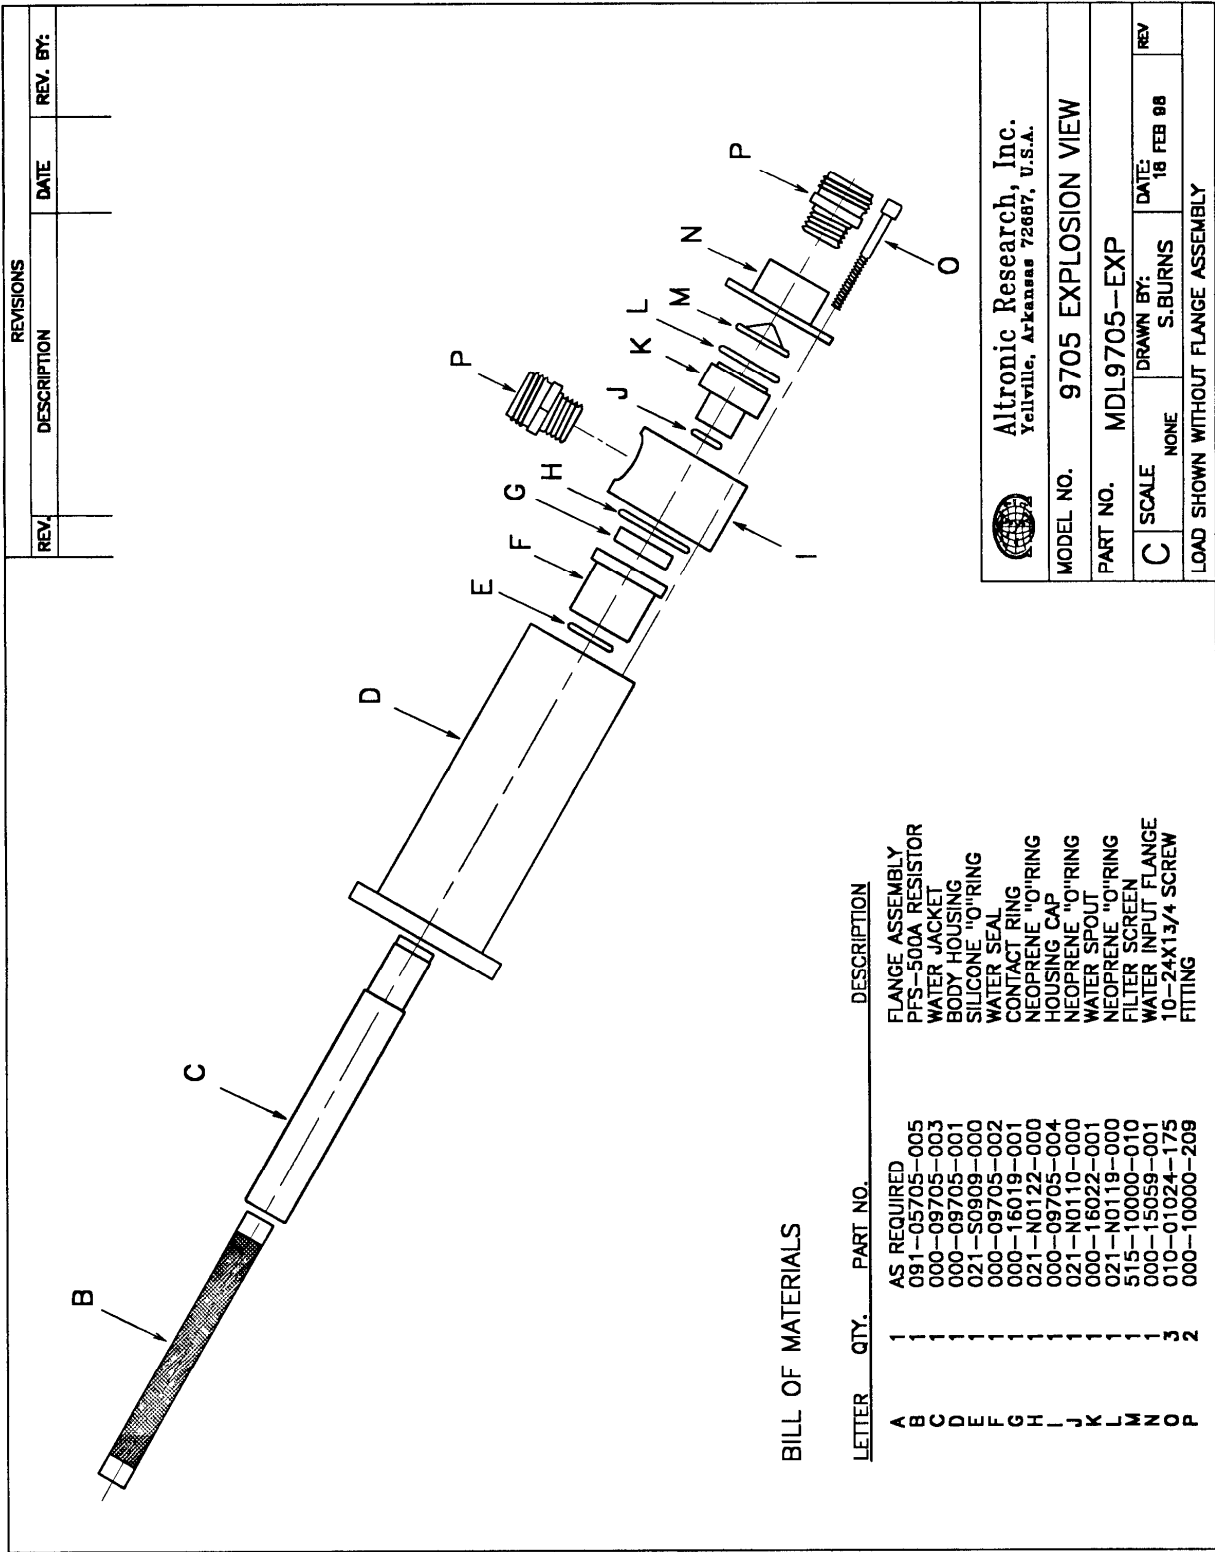
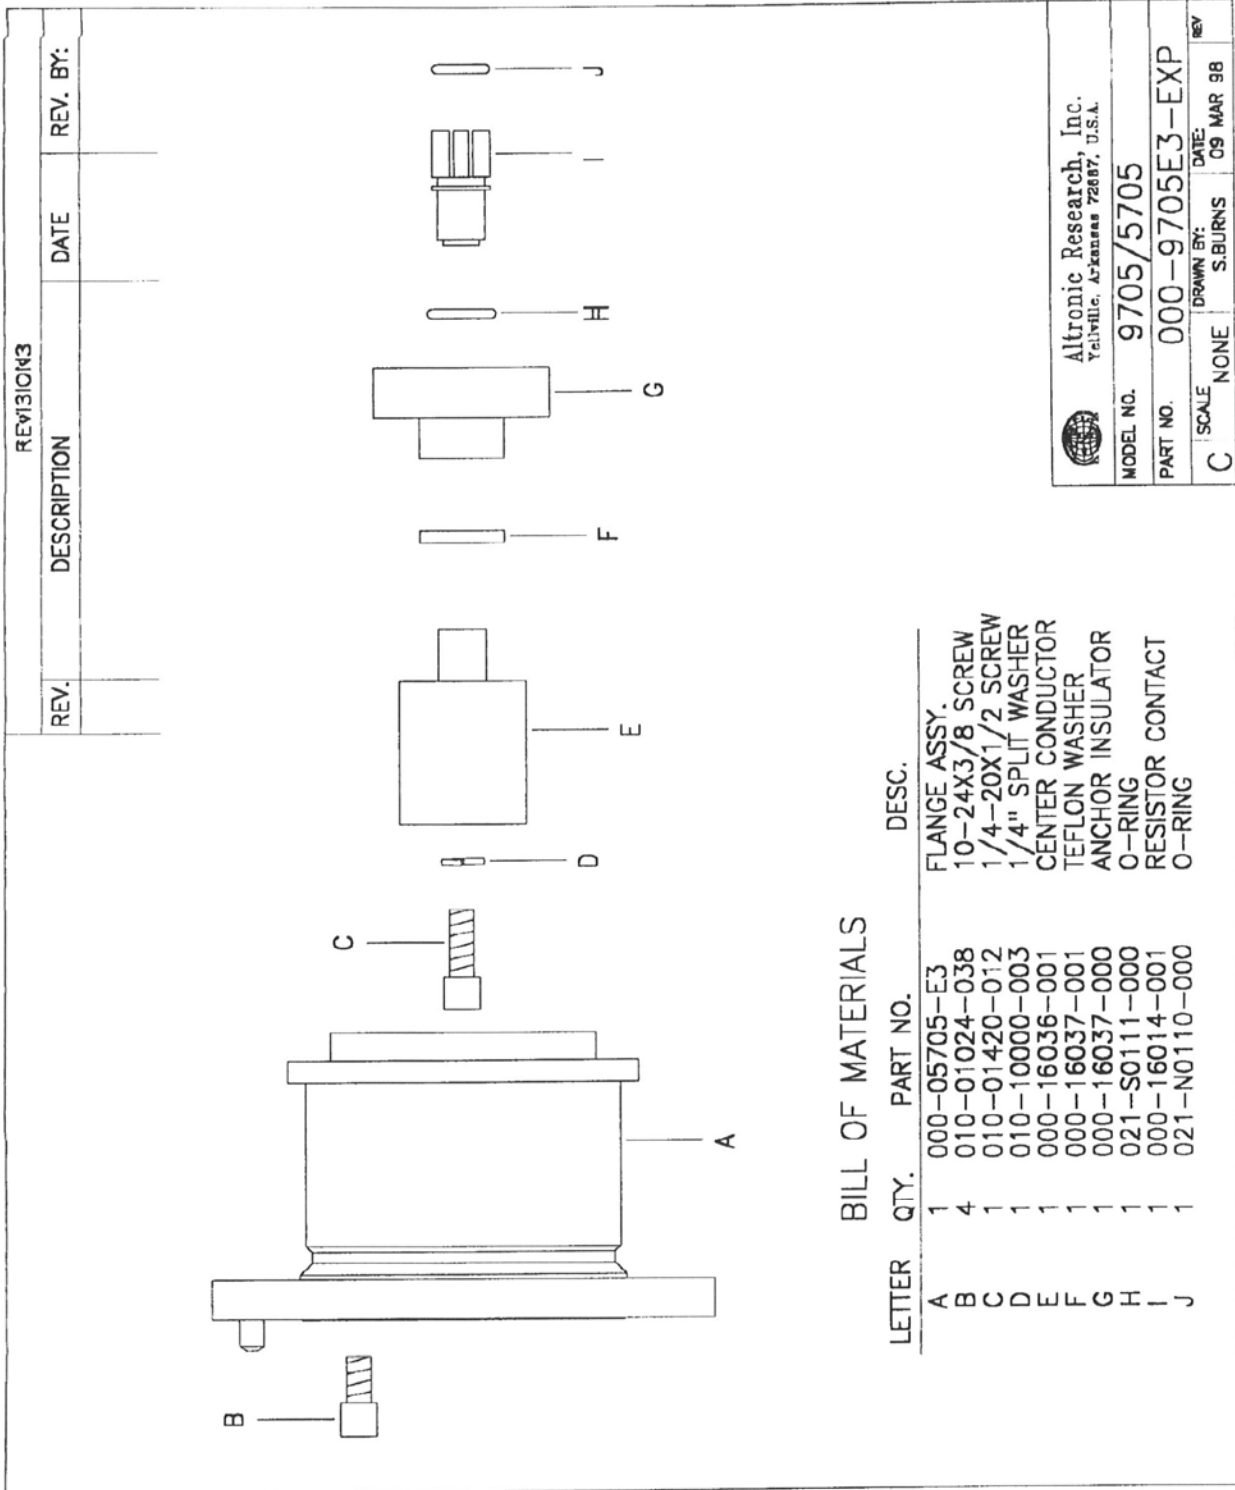

Fig. 14
Fig. 15
4. **Resistor Replacement** - (Refer to Fig. 14) To replace the resistor element, remove the three 10-24x1-3/4" cap screws (item O). Remove water input assembly (items M, N, and P). Inspect filter screen for damage, replace if eroded or torn. Remove housing cap assembly (items G, H, I, P, J, K and L). Inspect all O-rings for distortion or damage. Replace if pinched, cut, burned or no longer round in cross section. Inspect ring contact (item G) for signs of arcing or loss of silver in the area of contact with the resistor contact band. Replace if damage is noted. If resistor (item B) is not broken, grasp by the end extending from the water seal (item F) and pull it straight out of the load. (If
5. **Removal of RF Input** - (Refer to Figure 15) To remove the RF input line adaptor flange, remove four 10-24x 3/8" socket head screws (item B) that secure the line adaptor flange (item A) to the load body housing (item D, Fig. 14). The RF input assembly consisting of the center conductor, anchor insulator and front resistor contact (items C, D, E, F, G, H, I and J) will normally remain in the load body. Grasp the center conductor (item E) by hand and attempt to pull the input assembly out of the load body using slight side to side motion while pulling. If strong resistance is encountered, it may be necessary to chill the load to allow the anchor insulator to shrink away from the load housing. This can be done by placing the load in a freezer, or packing the load in ice for 20 to 30 minutes. Once the anchor insulator has shrunk away from the load housing, the RF input assembly should be easily removed. At this point of disassembly, all components of the load can be inspected or replaced as needed. Reassembly should be done in the reverse order of sequence.